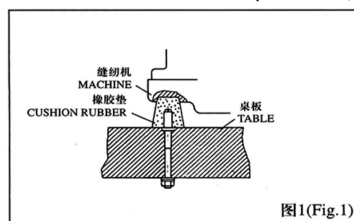

图1(Fig.1)
1、依本机器所付桌板裁制图及零件组合图所列配件，依序安装防震机座及线架（图 1&2）
1、With reference to diagrams for table cutting and mounting part list,install vibration-reducing base and thread stand in sequence (Fig.1&2)